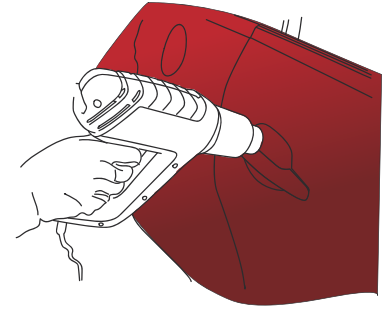

Figure 31
- › Once the application is finished, heat again all the parts which have undergone severe deformation using the heat gun. (FIG. 31)